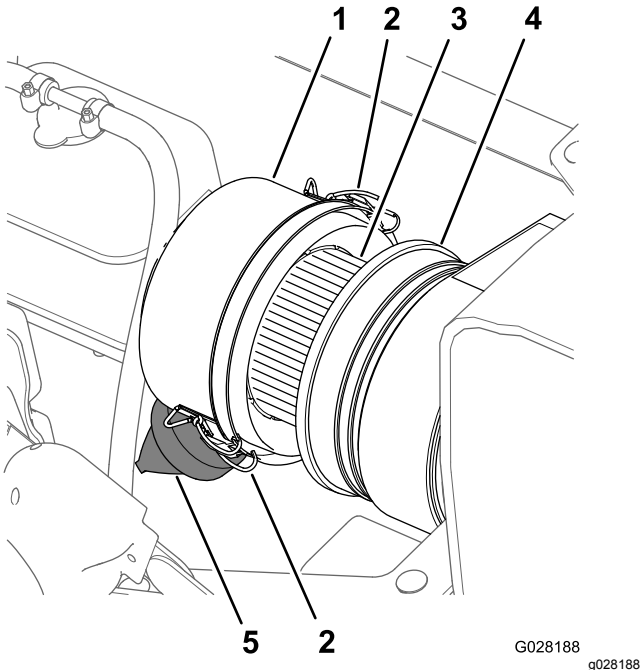
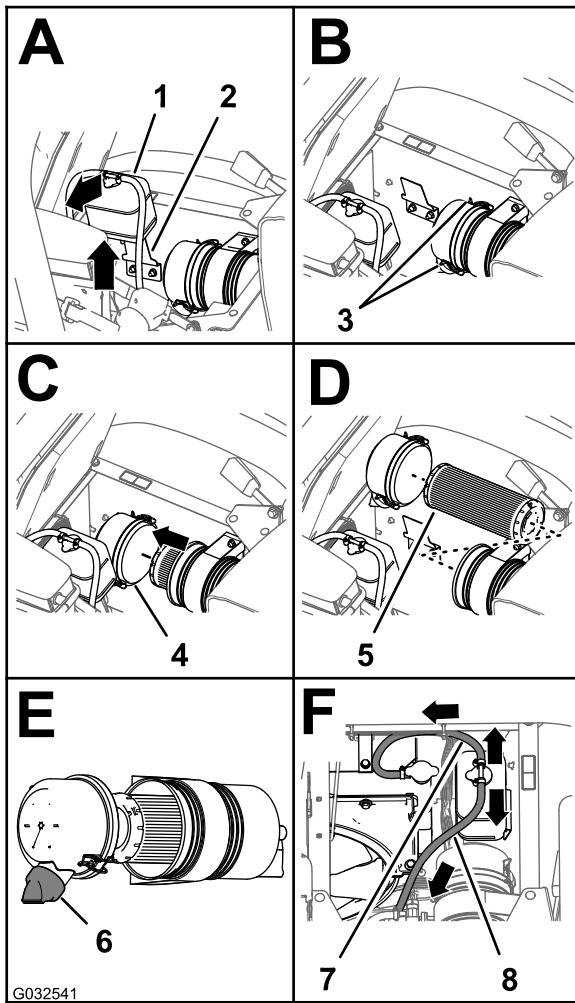

Figure 72
Figure 73
3. Clean the dust cap and air-cleaner body (Figure 72).
4. Check the air-cleaner body for damage that could cause an air leak (Figure 72).
5. Squeeze the dust valve to clear it of dirt, dust, and debris (Figure 72).
7. Check the air-filter element for excessive accumulation of dust, dirt, and debris (Figure 72).
8. Install the dust cap onto the air-cleaner body and secure the cap with the 2 latches (Figure 72).
2. Clean the dust cap and air-cleaner body (Figure 72).
3. Lift the coolant-overflow tank up and off the tank-support bracket (Figure 73).
4. Loosen the 2 latches that secure the dust cap to the air-cleaner body (Figure 73).
6. Clean the inside of the dust cap, air-cleaner body, and dust valve with a damp rag (Figure 72 and Figure 73).
7. Insert the air-filter element into the air-cleaner body (Figure 73).
8. Install the cover onto the air-cleaner body and secure the cover with the 2 latches (Figure 73).
Note: Ensure that the dust valve is aligned between the 5 to 7 o'clock position when viewed from the end (Figure 73).
9. Align the coolant-overflow tank to the tank-support bracket and seat the tank firmly (Figure 73).
Important: Ensure that the pressure-relief hose is routed forward and down, and the tank-vent hose is routed rearward as shown in Figure 73.